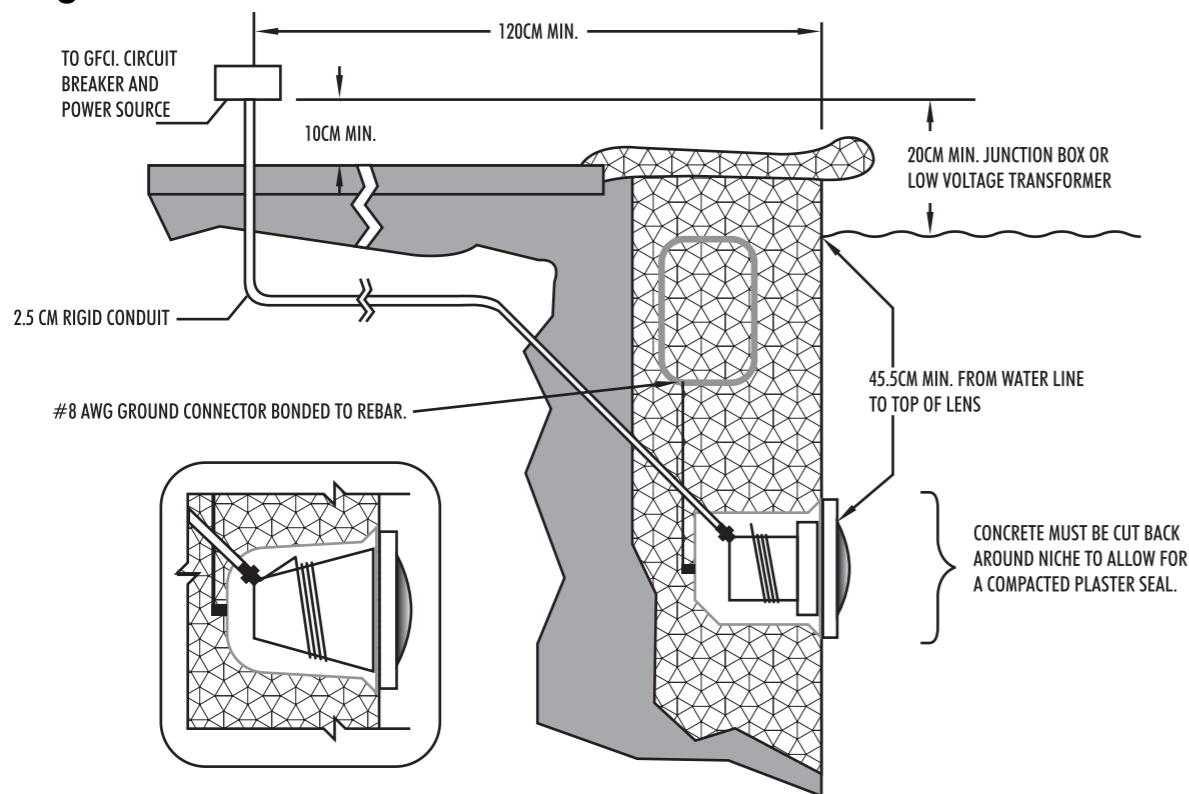

Figure 1.
A) The electrician must complete preparatory steps before light fixture is installed; see Figure 1.
- b) The Junction Box (or, for 12 volt models, the low voltage transformer) must be located at least 20CM above water level, at least 10CM above ground level, and at least 120CM from the edge of the pool; see Figure 1.
- d) The wet niche must be properly installed so that the top edge of the underwater light's lens is at least 45.5 below the surface of the water in the pool; see Figure 1.
- e) The wet niche must be properly electrically bonded and grounded via the No.8 AWG ground connector located at the rear of the niche; see Figure 1.
- 1) Feed cord through conduit to Junction Box, leaving at least 120CM of cord at the light fixture to coil around the light; see Figure 1. This 120CM of cord around the light allows the light to be serviced after the pool is filled with water.
- 3) Strip 15CM of the outer cord jacket to expose the three insulated wires. Be careful not to damage the insulation on the three (3) inner wires.
- 4) Connect all three (3) wires to the corresponding circuit wires in the Junction Box, and secure the Junction Box cover in place.